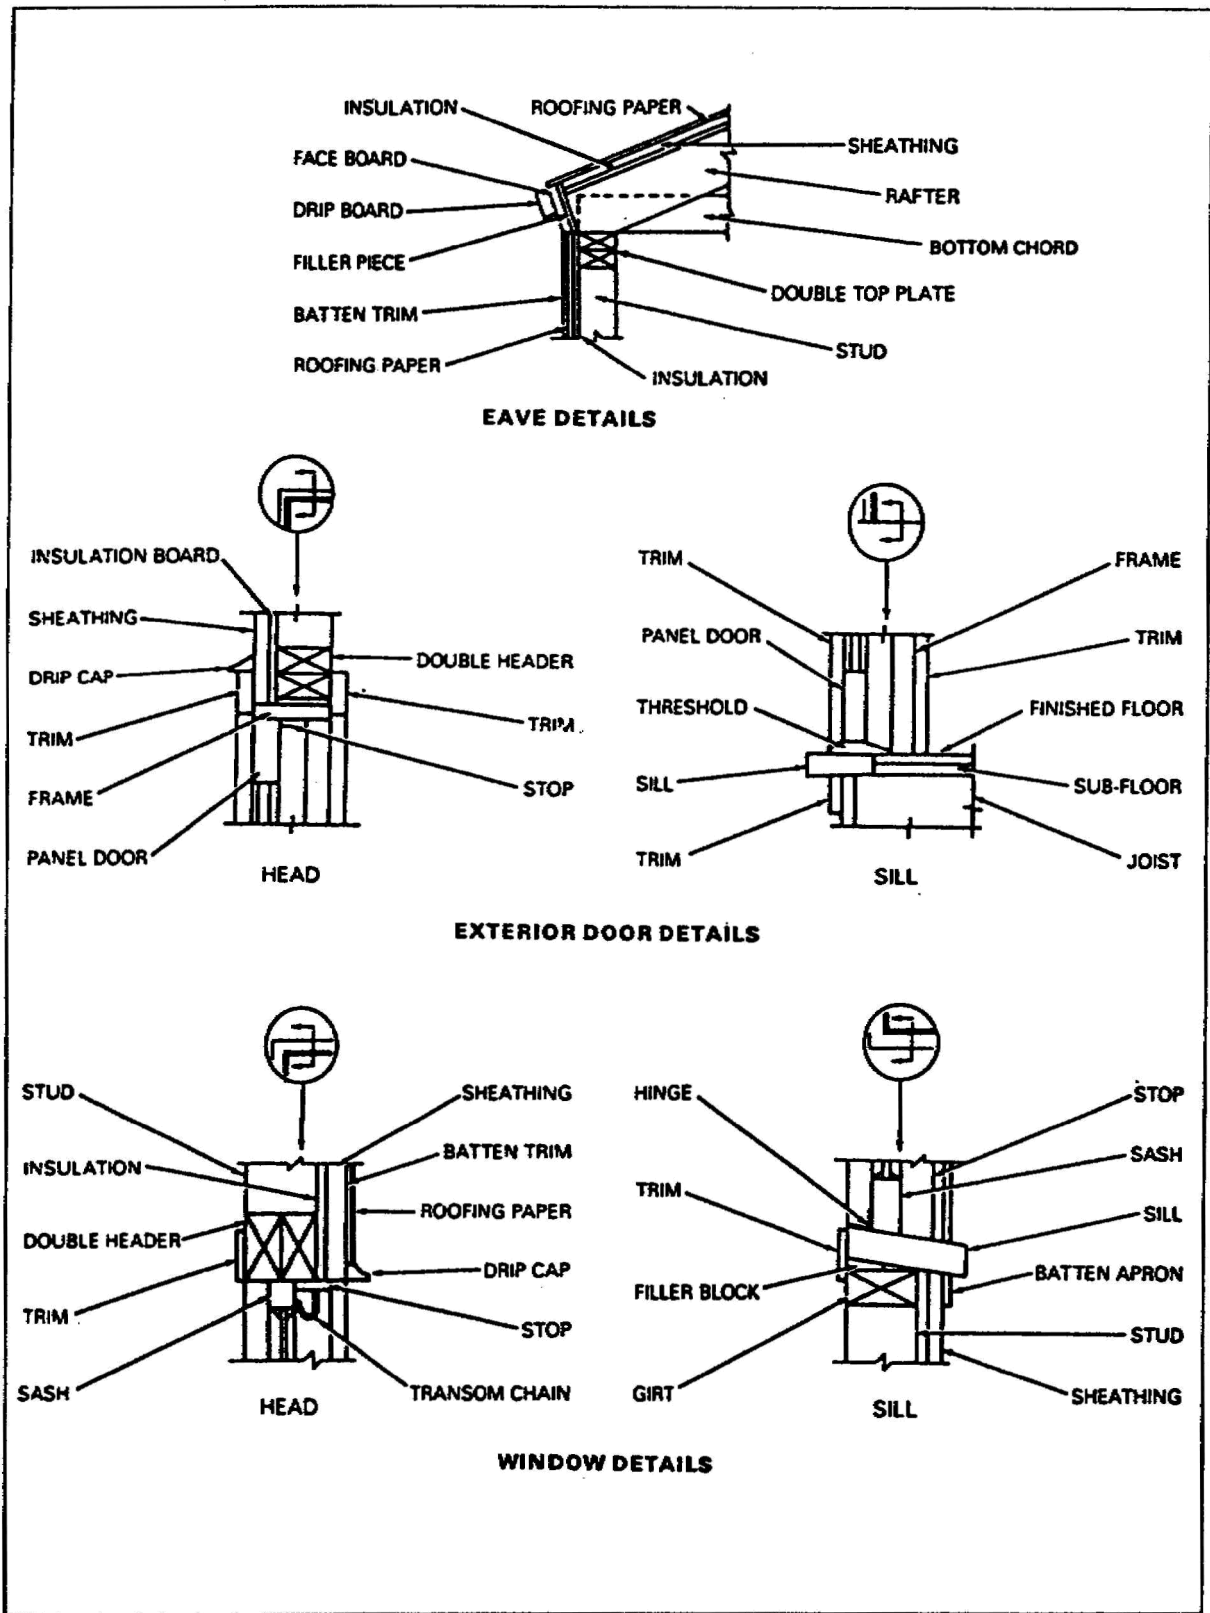

Figure 1-12. Typical eave, door, and window details
(2) Details. Details are large-scale drawings which show features that do not appear (or appear on too small a scale) on the plans, elevations, and sections. Sections show the builder how various parts are connected and placed. Details do not have a cutting-plane indication but are simply noted by a code. The construction of doors, windows, and eaves is usually shown in detail drawings. Figure 1-12, page 1-14, shows some typical door-framing details, window wood-framing details, and an eave detail for a simple type of cornice. Other details that are customarily shown are sills, girder and joint connections, and stairways.